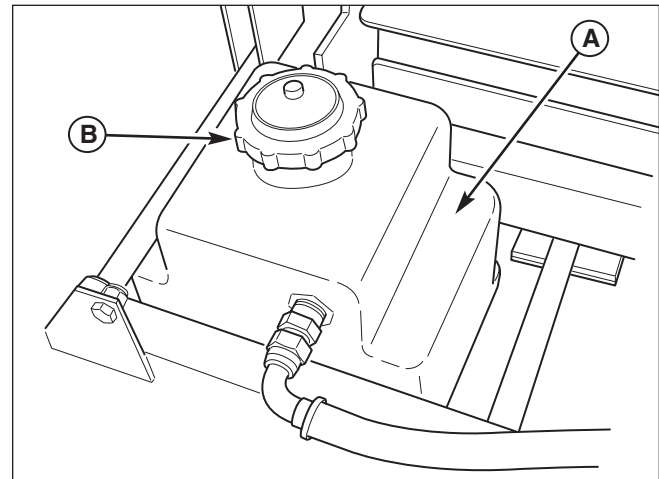

Figure 16. Hydraulic Oil Reservoir
1. Visually check that the hydraulic oil level is filled to the recess area (A, Figure 16) of the hydraulic oil reservoir.
2. If necessary, remove the reservoir cap (B) and add either Mobil 1™, 15W-50 synthetic oil or Castrol Syntec™ 5W-50 oil. **DO NOT** use conventional oils. Make sure area around the filler neck is free of dust, dirt, or other debris.